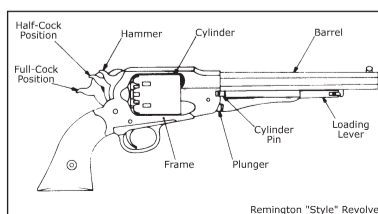

fig. 2
- 3 - Disassembly of the Remington-style revolver (see fig. 2):